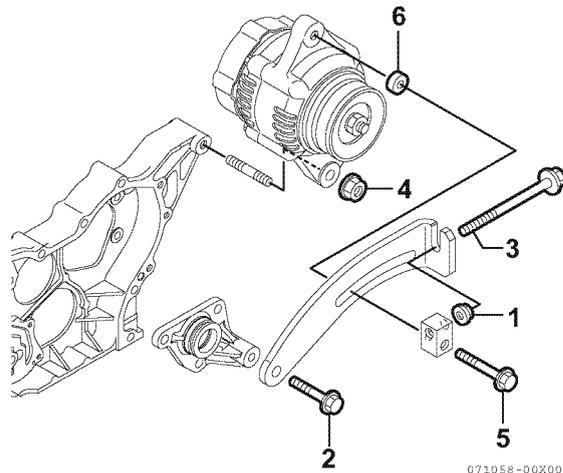

Figure 12-5
- 1- Loosen the adjuster bolt lock nut (1, **Figure 12-5**) adjusting the tension and the belt adjuster mounting bolt (2, **Figure 12-5**), and loosen the adjuster bolt (3, **Figure 12-5**) to a certain degree.
- 2- Loosen the mounting nut (4, **Figure 12-5**) at the bottom of the alternator. Remove the tightening bolt (5, **Figure 12-5**) from the alternator, and loosen the V-belt. Here, do not loose the spacer (6, **Figure 12-5**).
- 3- Remove the alternator mounting nut (4, **Figure 12-5**), and remove the alternator.